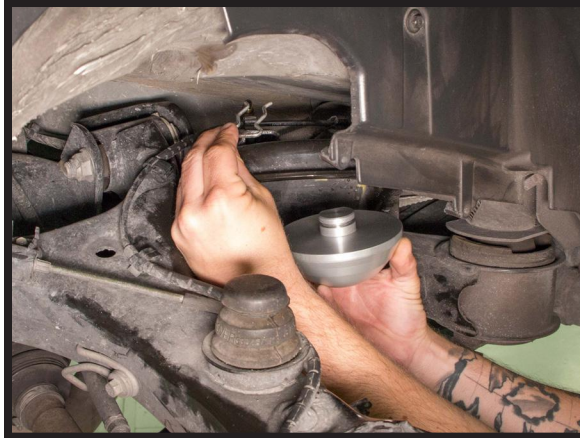

FIGURE 47
2. INSTALL THE UPPER SPRING SEAT INTO THE UPPER MOUNTING REUSING THE HITCH PIN. (FIGURE 47)